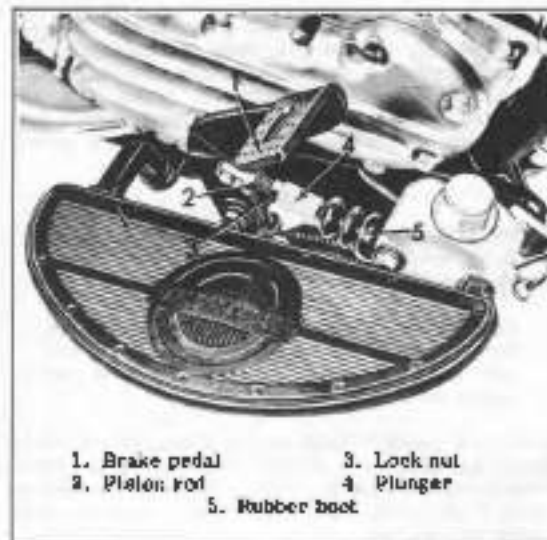

Figure 2G-7. Adjusting Rear Brake Pedal
sary to bleed the system to expell all air. See Fig. 2G-6.
Slip a length of appropriate size plastic tubing (2) over wheel cylinder bleeder nipple (1), Fig. 2G-6) with the other end in any container (3).